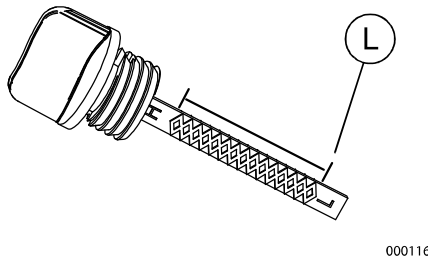

Figure 2-3. Safe Oil Operating Range
6. See Figure 2-3. Remove dipstick and verify oil level is within safe operating range above the lower limit (L).